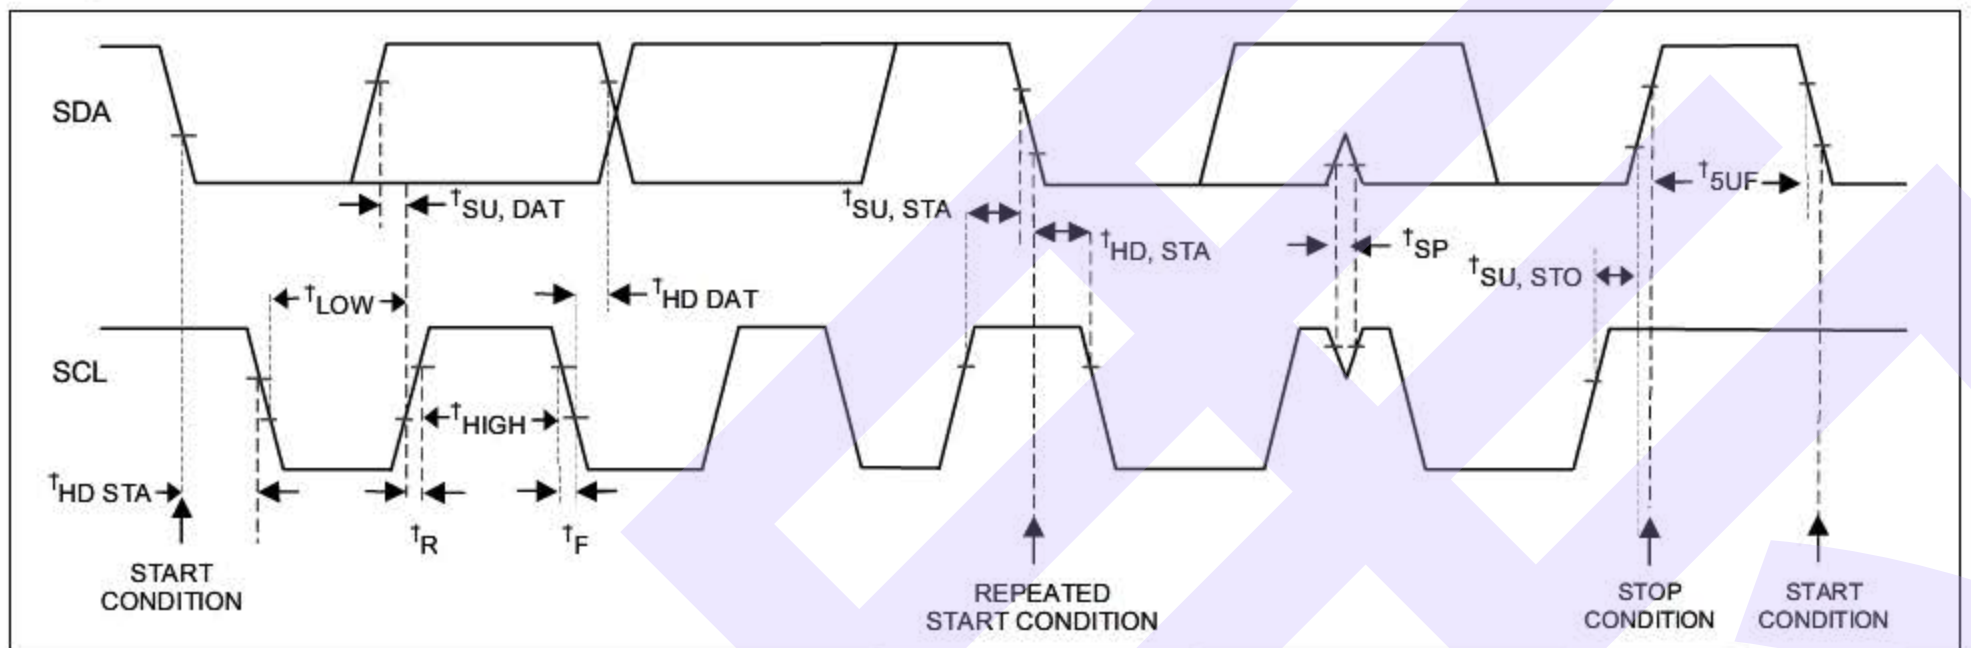

Figure 1. I²C Serial-Interface Timing Diagram SMBus is a trademark of Intel Corp.
The CS801-B-I features an I²C-compatible, 2-wire serial interface consisting of a serial-data line (SDA) and a serial-clock line (SCL). SDA and SCL facilitate communication between the CS801-B-I and the master at clock rates up to 400 KHz. Figure 1 shows the 2-wire interface timing diagram. The master generates SCL and initiates data transfer on the bus. A master device writes data to the CS801-B-I by transmitting the proper slave address followed by the register address and then the data word. Each transmit sequence is framed by a START (S) or REPEATED START (Sr) condition and a STOP (P) condition. Each byte is serially transmitted to the CS801-B-I as 8 bits and is followed by an acknowledge clock pulse. A master reading data from the CS801-B-I transmits the proper slave address followed by a series of nine SCL pulses. The CS801-B-I transmits data on SDA in sync with the master-generated SCL pulses. The master acknowledges receipt of each byte of data. Each read sequence starts with a START (S) or REPEATED START (Sr) condition, and ends with a not acknowledge and a STOP (P) condition. SDA operates as both an input and an open-drain output. A pull up resistor, typically greater than 500Ω, is required on the SDA bus. SCL operates only as an input. A pull up resistor, typically greater than 500Ω is required on the SCL if there are multiple masters on the bus, or if the master in a single-master system has an open-drain SCL output. Series resistors in line with SDA and SCL are optional. Series resistors protect the digital inputs of the CS801-B-I from high-voltage spikes on the bus lines, and minimize crosstalk and undershoot of the bus signals.